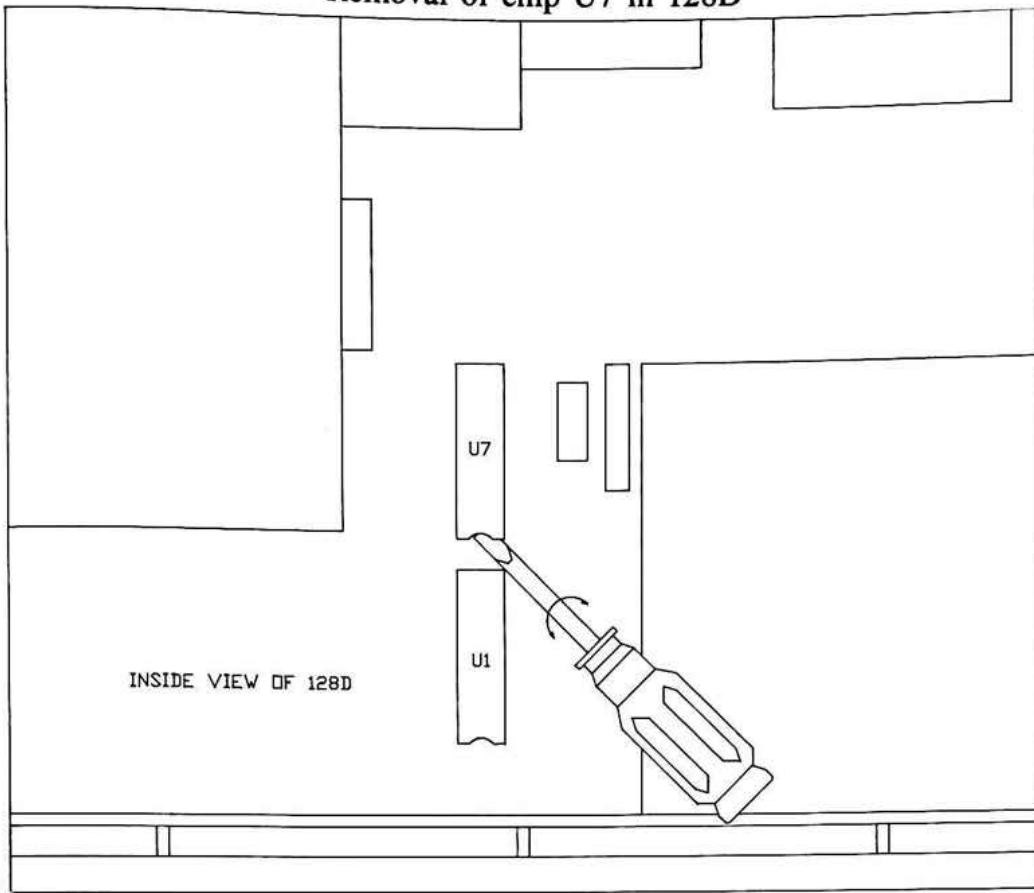

FIG 10
Step 4 - Locate U7 on the mother computer board. Refer to FIG 10. Gently remove this chip from its socket by inserting a small flat blade screwdriver as shown and then carefully rotate or twist the blade left and right. DO NOT USE A PRYING ACTION! Once removed, check all pins for straightness, and proceed to the next step.